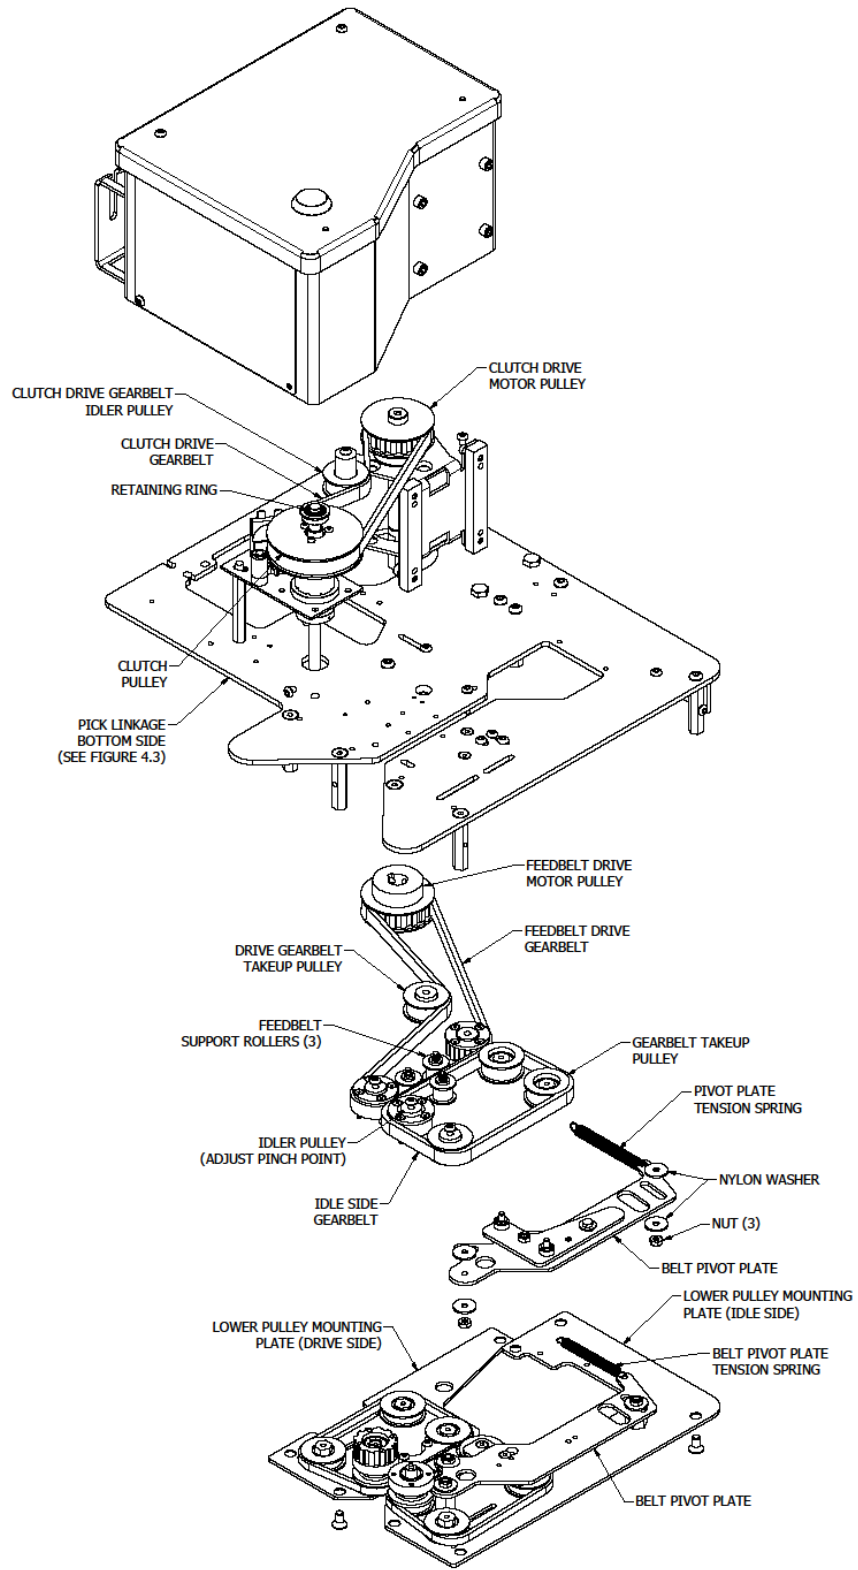

Figure 4.2
*Reference Figure 4.2*
- j) Unscrew the track mounting screws (3), and remove track assembly from main frame.
- d) Locate and remove the three (3) lock nuts and nylon washers securing the upper belt pivot plate to the main frame and remove the plate.